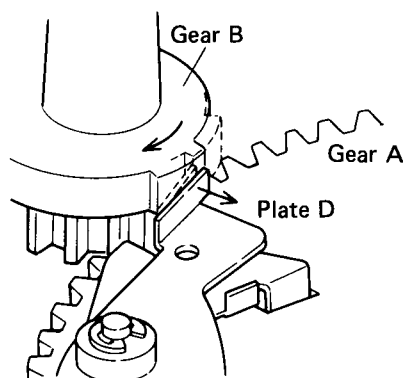

Fig. 4-6 Auto-return detection 3
5. The tooth of gear B has the dimensional difference shown in Fig. 4-6.